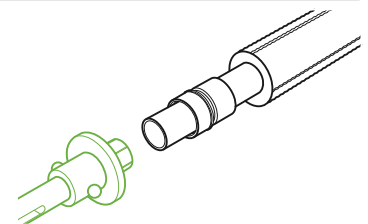

Fig. B10.3.2
5. Assemble the press tool with the appropriately sized expander head. Insert the expander head into the service pipe until snug (Fig. B10.3.2).